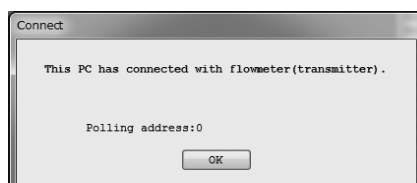

Fig.10
- ⑧ Upon completion of connections, a message box like the one in Fig. 10 appears. Click "OK" button.